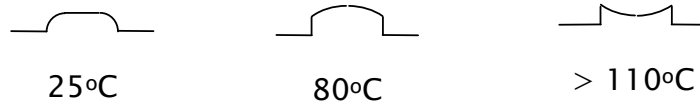

Figure 8.3. Emboss profiles at different temperatures
8.3.iii. The optimum emboss temperatures are around 80°C, particularly for tactile embossing. At low temperatures the embossed height is low due to stress surrounding the emboss area. At high embossing temperatures (>110°C) the embossed profile may change as shown in Figure 8.3.